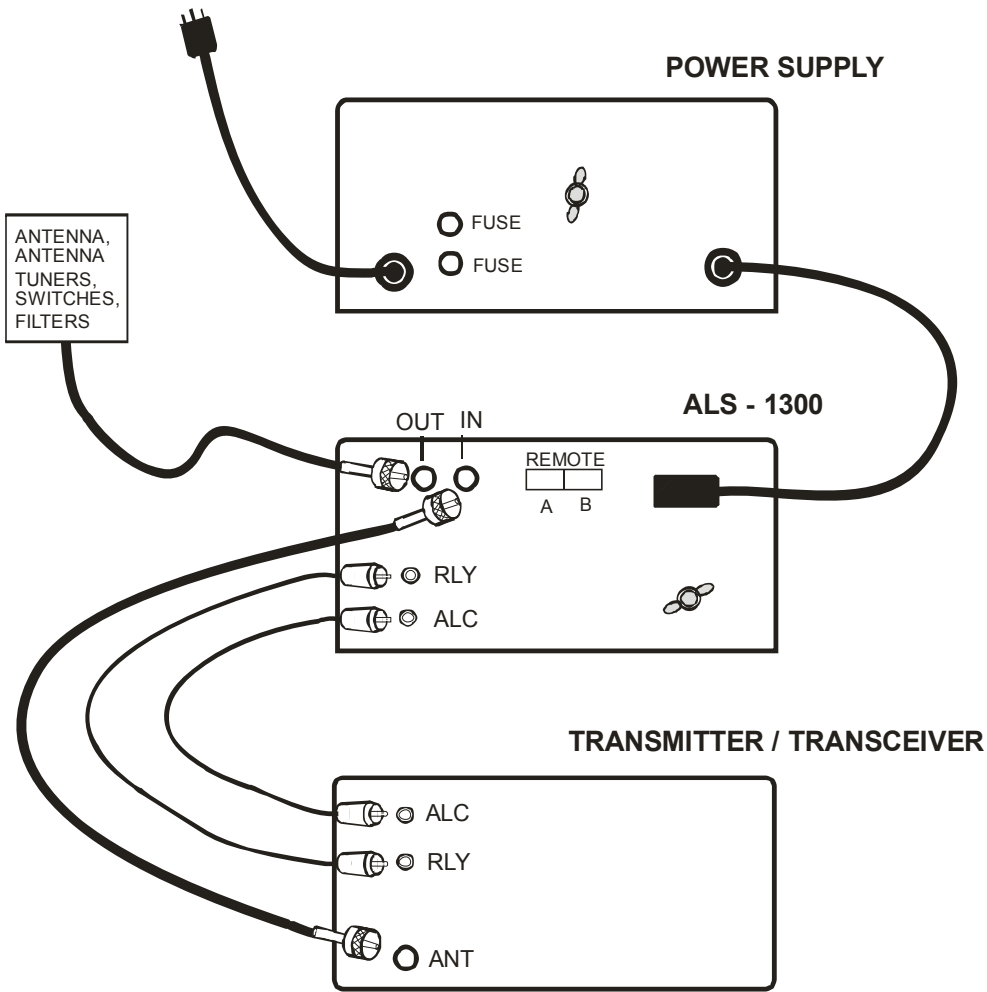
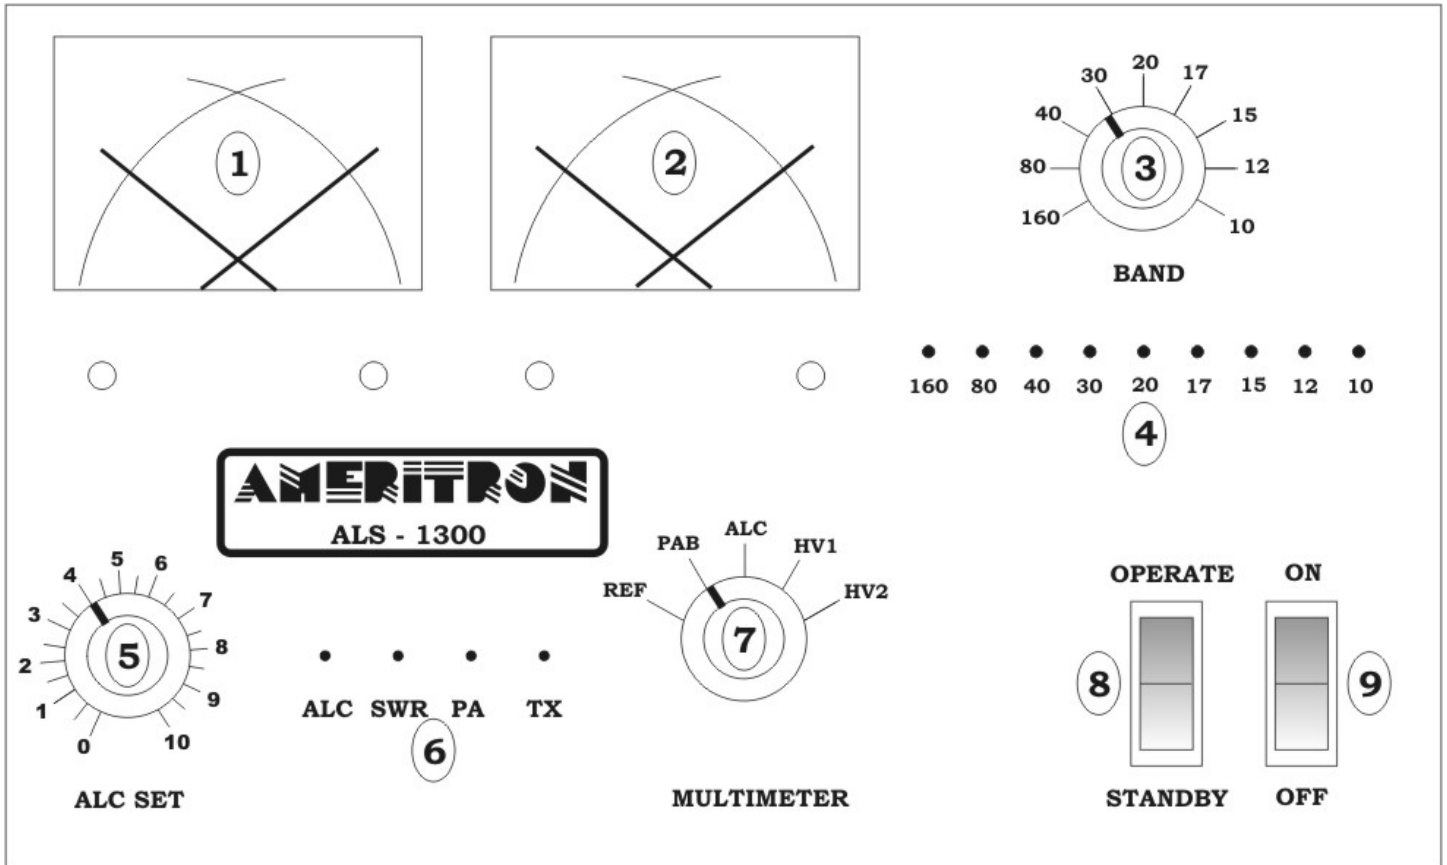

Figure 1 Interconnections
Figure 2 Amplifier Front
This amplifier is very simple to operate. Once you have established proper connections please set the amplifier (Fig. 2, ref 3) to one of the following bands:
Double check all wiring and connections (fig. 1) before turning power on. It always pays to be safe. If you are sure you have connected your amplifier correctly, follow the procedures below. The following steps only need to be done on an initial checkout:
1. Place the **MULTIMETER** switch (fig.2 ref 7) in the **HV2** position. Place the **ALC SET** control (fig.2 ref 5) full clockwise (10 on scale).
2. With the **STANDBY/OPERATE** switch (fig.2 ref 8) on **STANDBY**, turn the power switch (ref 9) **ON**.
3. There will be a slightly delayed click from the power supply. HV2 (fig.2, ref 2) should immediately rise to nearly full scale, and after a slight delay you should hear another click. The meters and **BAND** LEDS (fig.2, ref 4) will light up.
4. The HV meter (fig.2, ref 2) should read between 45 and 55 volts.
5. Change the meter switch (fig.2 ref 7) to **HV1**. The voltage should be the same as in step 4.
6. Rotate the **BAND** switch (fig.2 ref 3) through all positions. For any model purchased in the USA, only the 160, 80, 40, 20, 17, and 15-meter bands will actually operate.
7. Change the meter switch (ref 7) to **REF**. This will read reflected power.
8. With no modulation in the FM, AM, RTTY, or CW mode adjust your exciter power to low power, around ten watts. This is to have a steady unmodulated carrier. Verify you have very low power, ideally around 10 watts carrier (not critical), and that VSWR of *the antenna system* is low. You should see almost no deflection on the reflected power scale (fig.1 ref 2). If you see reflected power deflection, check your RF cables. **Note: You cannot use a tuner in your radio or between your radio and this amplifier to match the antenna system. Any antenna matching must be between the amplifier and the antenna, and the antenna tuner must be safely able to handle at least 1200 watts of carrier or peak envelope power.**
9. Place the amplifier in **OPERATE** position (fig.2 ref 8). Be sure the BAND on the amplifier matches the band selected on the transceiver.
10. Place the transmitter or transceiver into transmit in FM, AM, RTTY, or CW modes. The green **TX** LED (fig.2 ref 6) should light. The forward power (fig.2 ref 2) should increase to approximately ten times the initial reading, the reflected power should remain low, and the PA current should increase slightly on both scales of the current meter (fig.2 ref 1). No other lights should illuminate.